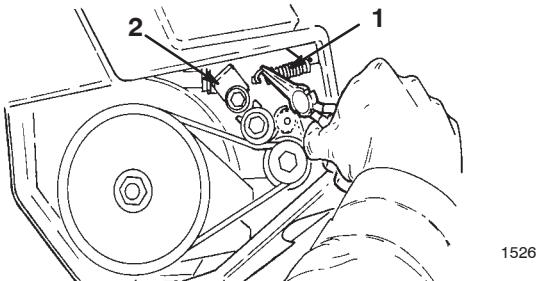

Figure 18
2. Remove the idler spring from the idler arm (Fig. 18).
- Assemble the idler spring (Fig. 18), making sure the idler pulley rides on the belt.